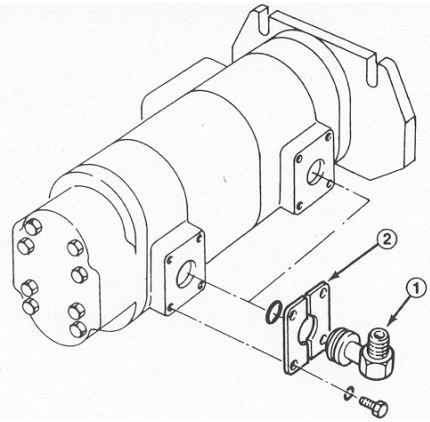

Figure 4
- Remove the 90 degree fitting from the right front and the rear of the pump because they will not be used (Fig. 4). However, the two-piece mounting flange that held the rear fitting to the pump will be used later. The other two-piece mounting flange will not be used.